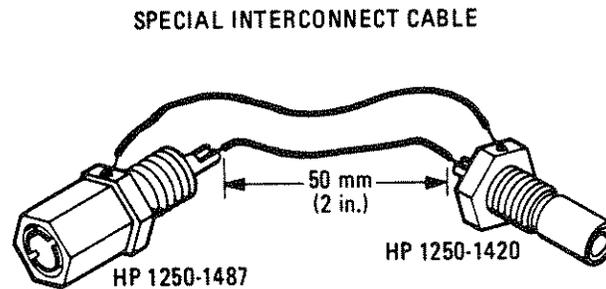

Figure 5-14. Special Interconnect Cable
- Special Interconnect Cable (See Figure 5-14)